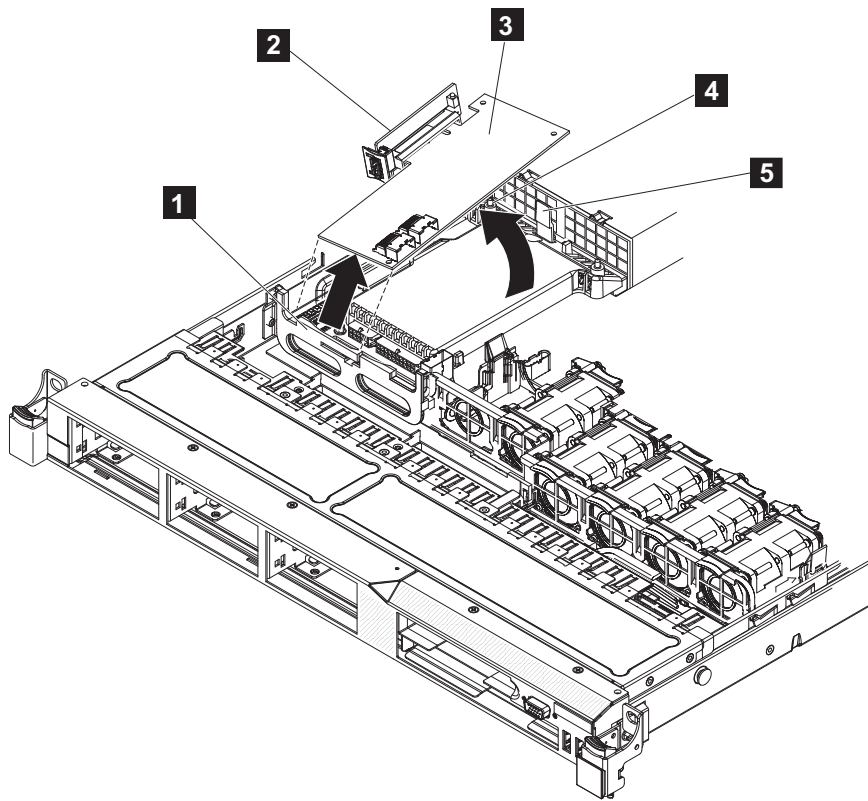

Figure 232. Disengaging the disk-controller front-retention bracket and removing the riser assembly and disk controller
11. Pull up on the disk controller (**3** in Figure 232) until the disk-controller and USB riser-card assembly (**2**) disengages from the connector on the system board.